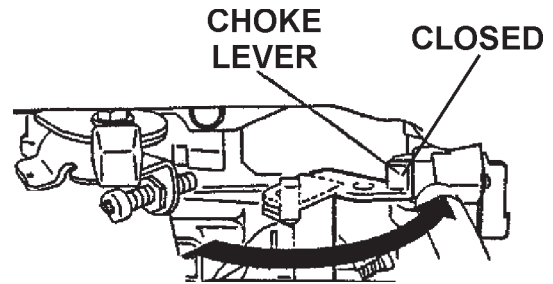

Figure 10. Choke Lever (Closed)
4. Place the **choke lever** (Figure 10) in the **CLOSED** position if starting a **warm engine** or the **temperature is warm**.